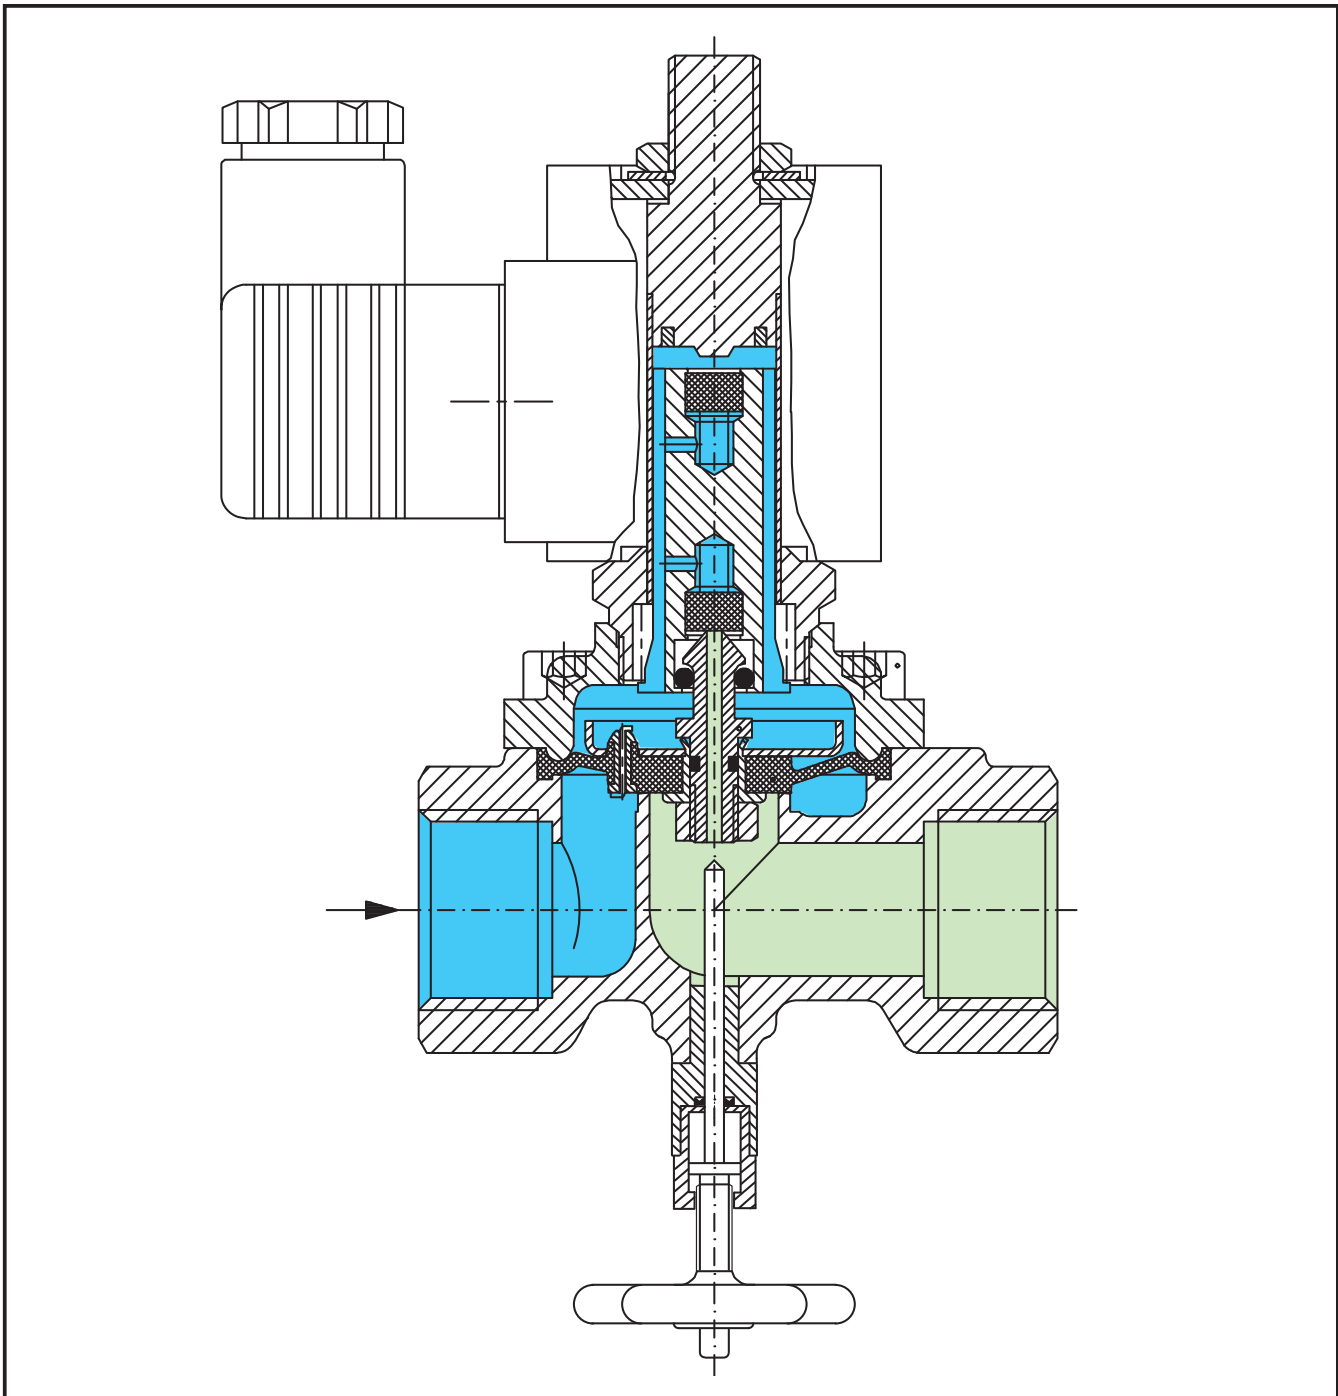
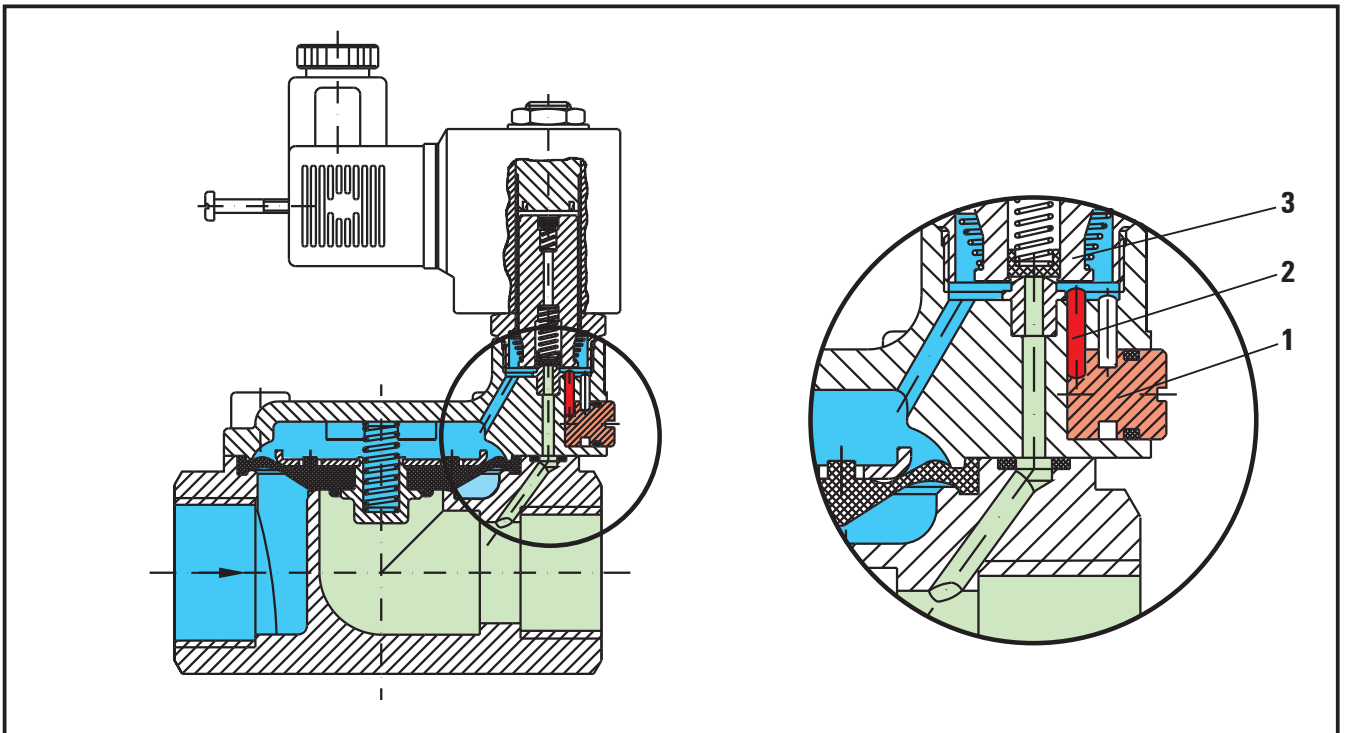

Fig. 4.6 - Description of function: Manuel override combined operated valves
Fig. 4.7 - Description of function: manual operation - servo-assisted solenoid valve
At the option „manuel override“ the valve will be actuated depending on the variants by a hand wheel (combined operated solenoid valve) or by an adjusting screw (servo-assisted and direct acting solenoid valves). At combined operated valves the main closing element will be lift up by turning a spindle with a hand wheel (see Fig. 4.6). At servo-assisted or direct acting valves the plunger (3) will be lift up by a pin (2) which will be moved by turning an eccentric screw (1), therefore the pilot drilling will be open. (see Fig.4.7)